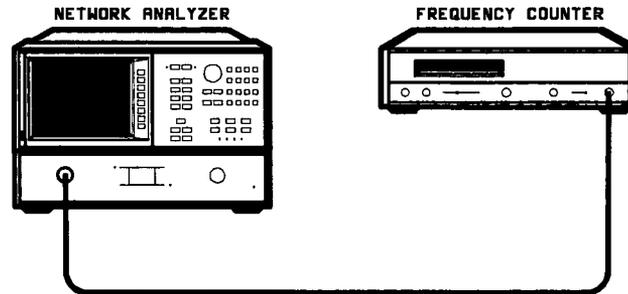

Figure 4–6. Frequency Range and Accuracy Test Setup
1. Connect the equipment as shown in Figure 4–6 and press **RECALL** **RECALL FAC PRESET** **MENU** **CW FREQ**.